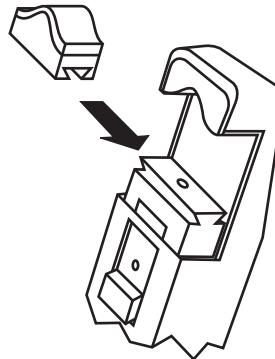

Figure 3-2. Slide the adapter into the FOLTI's mating slotted channel.
- (A) foam-covered, to accommodate 900-µm buffered fiber
- (B) smooth-surfaced with foam perimeter, for use with ribbon fiber or a 250-µm coated fiber
- (C) slotted, for 3-mm and optional 2-mm jacketed fiber (i.e., pigtails and jumpers) or loose-tube fiber
2. Select the appropriate adapter and slide it into the slotted channel of the FOLTI with slight downward pressure, as shown in Figure 3-2.